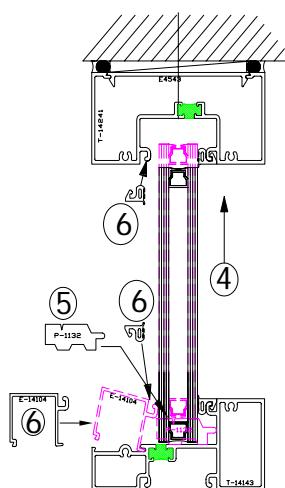

Figure 17.1
- E.) With interior frame vinyl in place, insert glass in the opening (*Figure 17.1*).